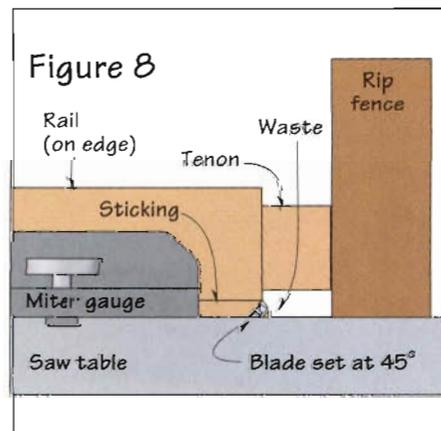

Figure 8
**Step 4.** Without changing the blade setting, reposition the rip fence as shown in *figure 8* so you can make a 45° cut on the end of the rail sticking. Note that the angle meets at the shoulder of the sticking and the tenon shoulder (*photo F*).